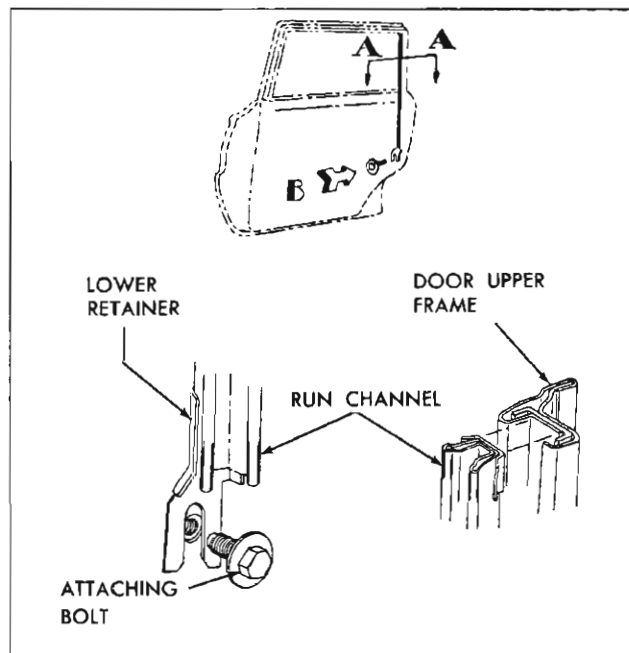

Fig. 54—Rear Door Window Glass Run Channel—35 and 45 Styles
2. From inside door, remove bolt securing lower end of glass run channel at door lock pillar facing (fig. 54).